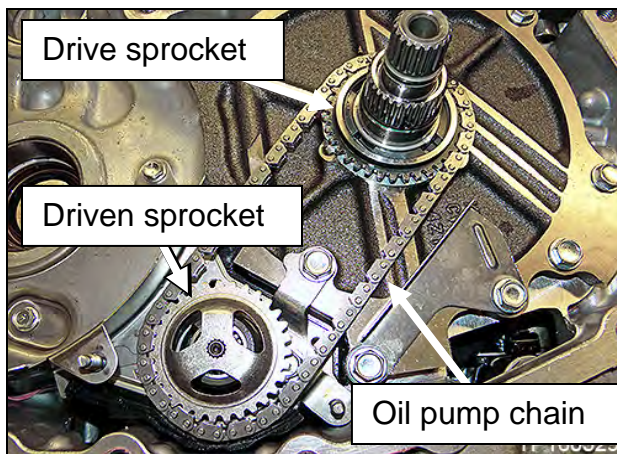

Figure 12C
- Remove the oil pump chain, driven and drive sprockets as one assembly (Figure 12C).